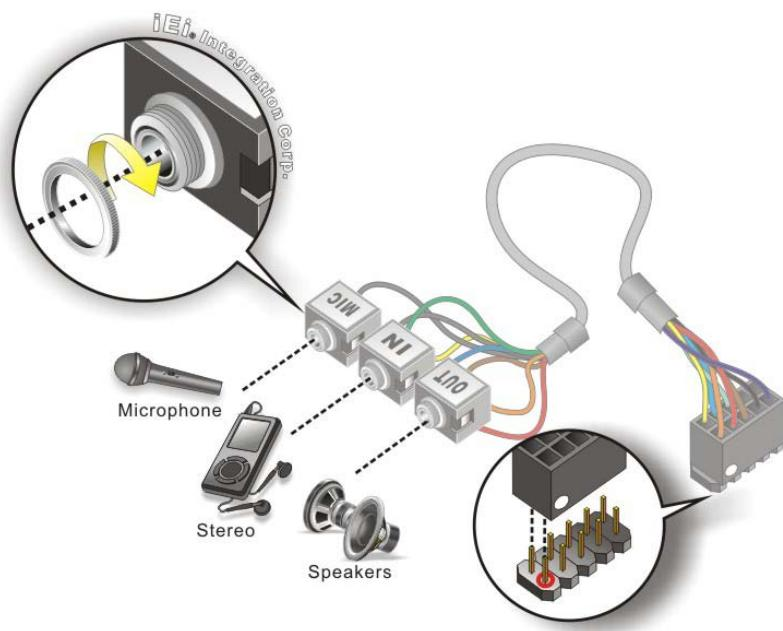

Figure 4-6: Audio Kit Cable Connection
Step 2: Align pin 1. Align pin 1 on the on-board connector with pin 1 on the audio kit connector. Pin 1 on the audio kit connector is indicated with a white dot. See Figure 4-6.